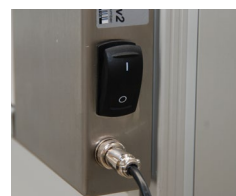

fig. 3.1-38
**Step 29** Putting into operation: Plug the 24V barrel connector of the provided adapter **C3** into the 24V jack of the twall®. The jack and the switch can be found at the right stainless steel frame cover. Now connect the adapter to the power supply line and plug it into a 200V/ 10A socket and switch on the twall® (**fig. 3.1-38**). All lights will flash up for a short moment and the twall® is ready to operate.